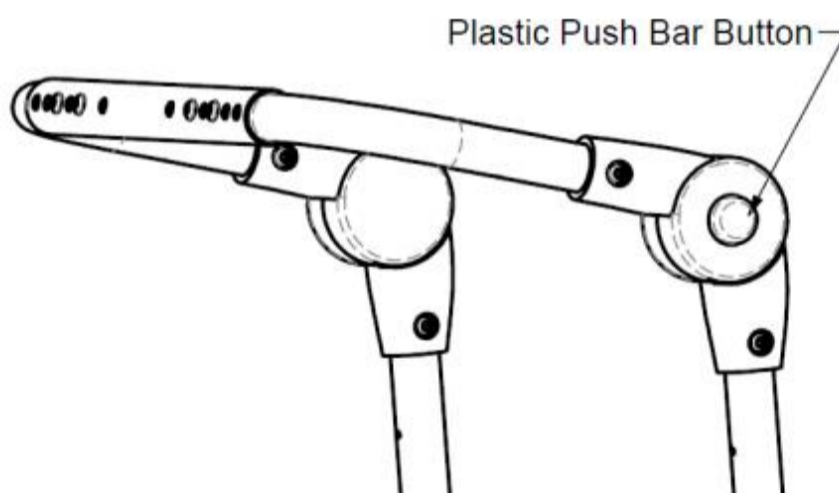

Figure 16.24: Adjustable push bar handle
1. To adjust the push bar angle, simultaneously press both plastic push bar buttons located on the top of both backrest posts (see Figure 16.24).